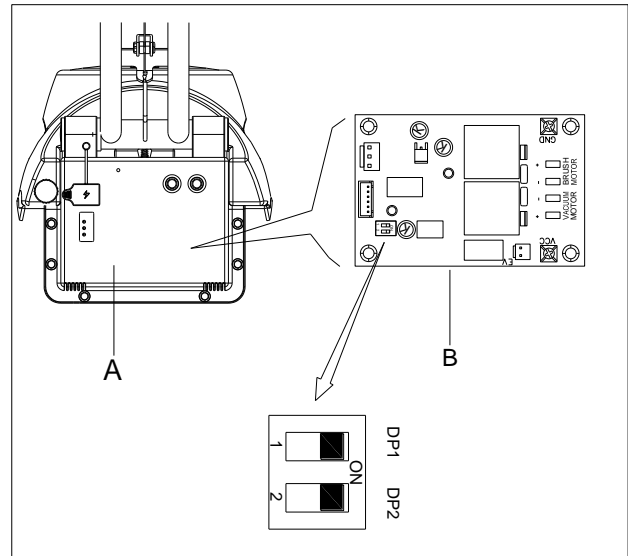

Figure 5
1. Turn off the machine and disassemble the cover (A as Figure 5) from the machine. You will find the main control PCBA (B as Figure 5). There are 2 switches (DP1 and DP2) in the PCBA.